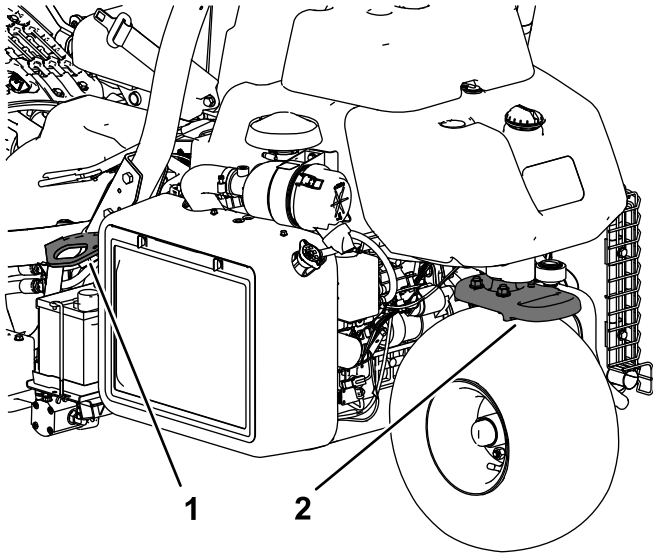

Figure 31
- Tie the machine down securely using straps, chains, cable, or ropes. Both front and rear straps should be directed down and outward from the machine (Figure 31).